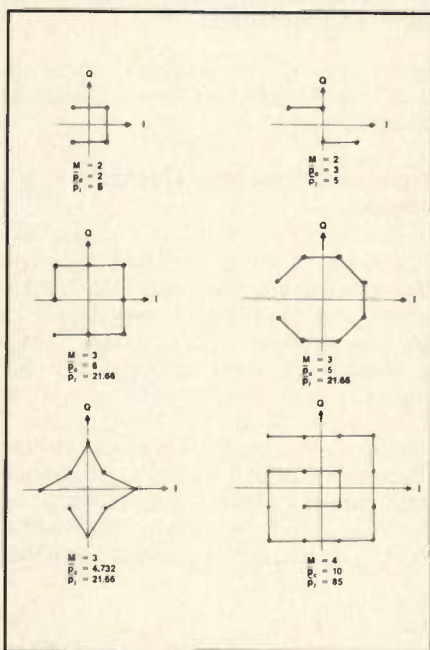
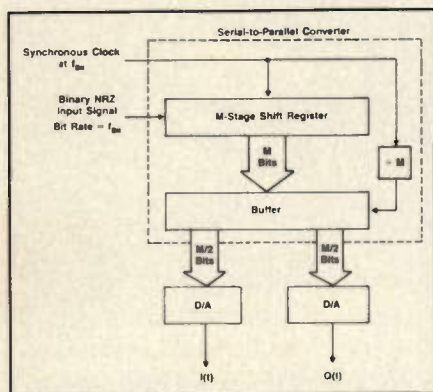
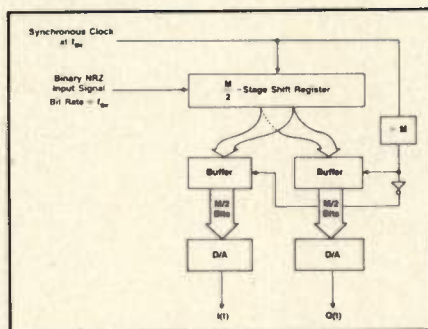
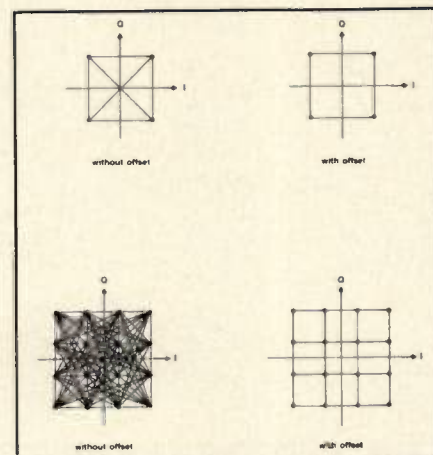

Figure 10. Constellation displays of folded four-, eight- and 16-level signal $I(t)$.
Figure 11. Generation of the complex signal $c(t) = I(t) + jQ(t)$.
Figure 12. Generation of an "offset keyed" complex signal.
Figure 13. Constellation displays of complex signals generated with and without offset.
Figure 10 shows some possible constellation displays resulting from the folding of a four-level, an eight-level, and a 16-level signal $I(t)$. In order to illustrate the power gain which can be realized, each constellation is accompanied by the mean power value P_c of the corresponding complex signal $c(t)$, and by the mean power value P_I of the L -level signal $I(t)$ before folding. Both of these values have been normalized with respect to the original binary signal mean power. All of these constellations are open in the sense that there is no direct link between the lower and upper state levels of $I(t)$. Incidentally, it is that characteristic which permits unfolding of the received signal in an unambiguous way.
The bandwidth occupancy of the complex signals $c(t)$ corresponding to the constellations illustrated in Figure 10 increases with L , since the signal is not allowed to transit straight through the shortest path from one state to another. Rather, the signal must travel in a backward and forward motion, following the only allowable path linking all the states. Instead of folding the L -level real signal $I(t)$ in the manner discussed so far, it is possible to transform it into another complex signal leading to the same states as those
illustrated in Figure 10. This time, however, the signal is allowed to transit in a direct line from one state to any other one. For the case when M is even, such a complex signal can easily be generated, as shown in Figure 11. The use of linear D/A converters leads to square constellation displays which present the same noise immunity as the previous square ones. Indeed, in such cases, the full distances between each state is preserved in signals $I(t)$ and $Q(t)$, from which the receiver now makes its decisions. Any constellation link non-orthogonal to the I-Q axis would lead to shorter distances between the corresponding states of the $I(t)$ and $Q(t)$ signals and, accordingly, to a decrease in noise immunity. The bandwidth of the complex signal generated in the manner shown in Figure 11 is the same as the one of the real L -level signal $I(t)$ generated as shown in Figure 8. There is, however, as Figure 10 illustrates, a net difference between the power of each signal required to achieve the same noise immunity. That explains the present popularity of such complex signals over real signals in modern power- and
Complex signals generated in the manner illustrated in Figure 11 present larger amplitude fluctuations than with the previous method, due to the direct transitions from one state to another. The transmission of such complex signals through nonlinear amplifiers generally results in poorer performances, due to self-generated interference between $I(t)$ and $Q(t)$, the two orthogonal projections (3). Amplitude fluctuations can be reduced to their minimum by forbidding simultaneous renewals of the $I(t)$ and $Q(t)$ buffer contents. This can easily be done, as shown in Figure 12, by clocking the buffers with two synchronized clocks, one being offset by $M/2$ bits or half a baud with respect to the other. In that way, the complex signal can still transit from one state to any other one, but in two successive orthogonal moves instead of diagonally. The resultant constellation displays for $M = 2$ and $M = 4$ appear in Figure 13, along with those obtained without offset. This kind of signalling is known as "offset keying". It is worth noting that the bandwidth